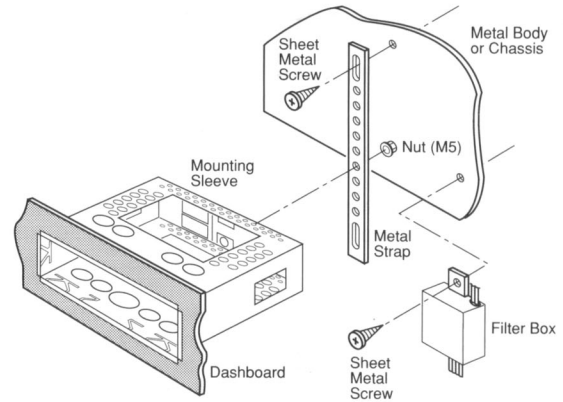

Figure 10. Securing the Rear of Mounting Sleeve.
6. If you were able to secure the Mounting Sleeve properly in steps 4 and 5 above, skip this step and go on to step 7. Otherwise secure the rear of the sleeve to the vehicle by fastening the metal strap (supplied) as shown in Figure 10.
7. If there is enough space, mount the filter box to the firewall, with a tapping screw (see Figure 10).